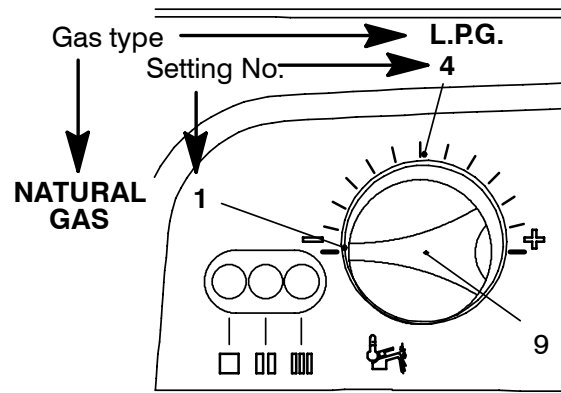

Fig. 8.4
At this step it is possible to visualize the current setting by keeping the reset button 7 pressed for more than 5 seconds. The lamps 10 will flash a number of times corresponding to the setting of the knob 9 in Fig. 8.4.
- 13 To change the setting turn the knob 9 on a position corresponding to the gas used as shown in Fig. 8.4.